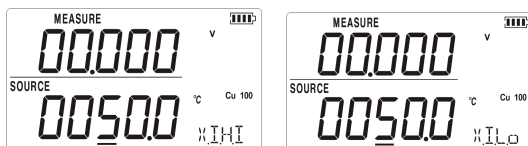

Figure 6.2-2
4. In case that the calibrator displays $\times I H I$ or $\times I L \square$, the exciting current of calibrator has exceeded the limit. The screen will display as shown in Figure 6.2-2.